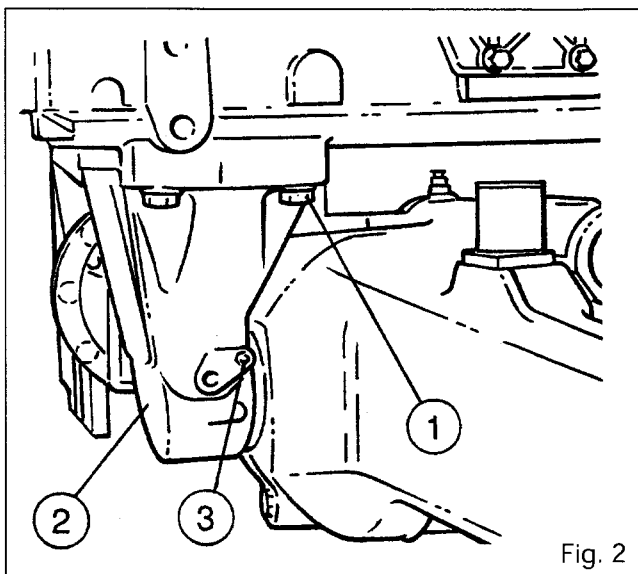

Fig. 2
44. Fit the bearings (22) in the housing (20) using a suitable fixture.
45. Assemble the upper shaft (12) on the bearings (22). Fit the circlip (23).
46. Assemble the lower shaft (29) equipped with bushes (30) and circlip (31) on the fixed column (28). **Note: Deform the column tube by striking it with a punch so as to lock the bushes (30) in position.**
47. Reassemble the housing (20) and mobile column (21) assemblies. Fit pins (18) and (19). Crimp pin (18).
48. Refit the springs (17).
49. Compress spring (7). Position the rack /10\ as per Fig. 2 to avoid any interference with lever (4). Fit and tighten the bolts (6) after coating them with Loctite 241.
50. Adjust the lever (4), rod T in contact with the notched lever (9) using the adjusting screw [5] (3 mm Allen wrench).
6. Remove the grease nipple (3) and the bolts (1). Remove the bearing (2) (Fig. 2), the washer (4) and the seal (9).